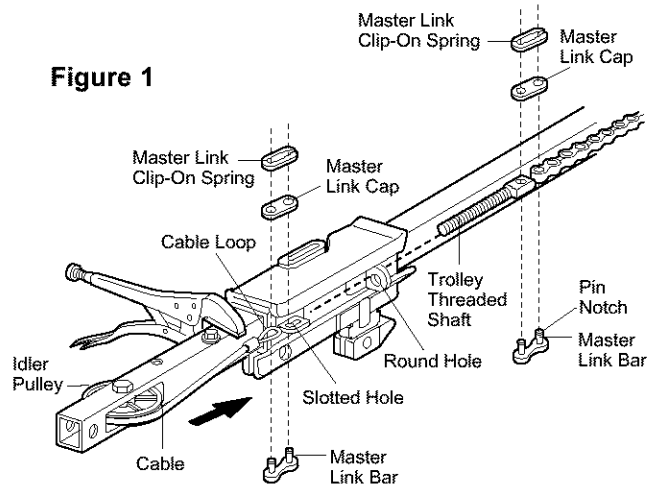

Figure 3
5. Thread the inner nut and lock washer onto the the trolley threaded shaft (Figure 3).